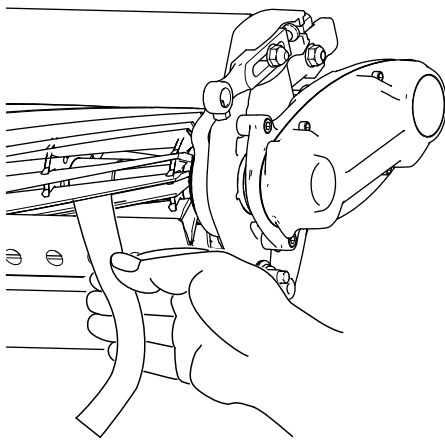

Figure 6
- B. Insert a long strip of cutting performance paper (Toro Part No. 125-5610) between the reel and bedknife, perpendicular to the bedknife (Figure 6), then **slowly** rotate the reel forward; it should cut the paper; if not, repeat steps **A** and **B** until it does.
11. Insert a long strip of cutting performance paper (Toro Part No. 125-5610) between the reel and bedknife, perpendicular to the bedknife (Figure 6), then **slowly** rotate the reel forward; it should cut the paper; if not, turn each bedbar adjusting screw clockwise 1 clicks and repeat this step until it cuts the paper.